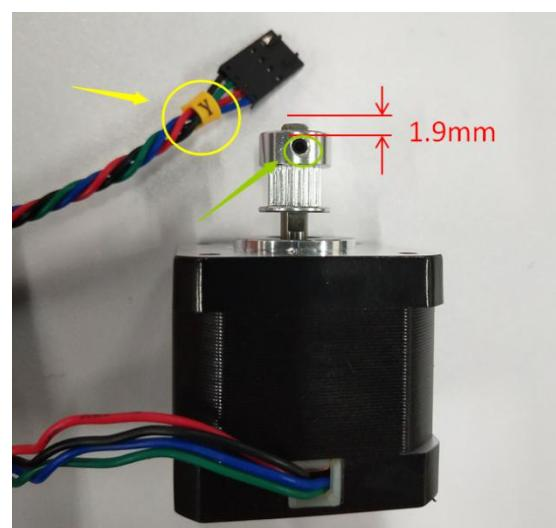

Figure 1.1.2
**Step 1-1-2:** Install the GT2 16 pulley on the Y-axis motor shaft, the end of the pulley with machine screws is installed upwards, and the distance between the motor end face and the pulley end face is 1.9mm, as shown in Figure 1.1.2 As shown.